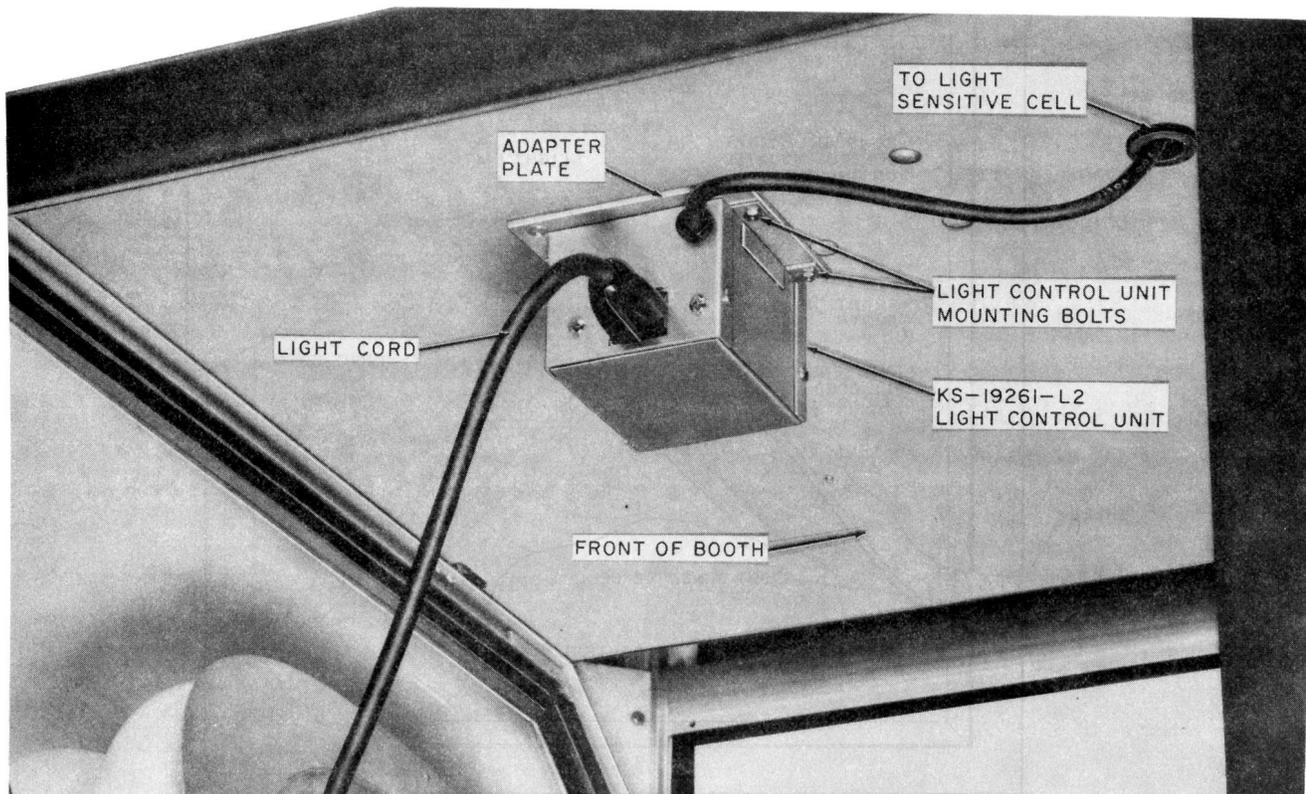

Fig. 18—Position of List 2 Light Control Unit on Ceiling of KS-14611 Booth
- (8) Attach light cell adapter plate to inside of ceiling so that the pair of light control unit mounting bolts are toward the front of booth (Fig. 18).
- (9) Place light control cord up through large hole and secure light control unit to adapter plate.
- (10) Place light cell up through previously drilled hole and insert grommet.
- (11) From top of booth, place light control unit cord plug into area of power receptacle.
- (15) Plug light cord into control unit (Fig. 18).
- (16) Replace lamps and roof retaining nuts.
- (17) Plug light control unit cord into receptacle and replace access plate.
- (18) Secure dome and plug the power cord into receptacle.
- (19) Cover light cell to exclude light. Lamps should light within two minutes. If lamps do not light proceed as follows: